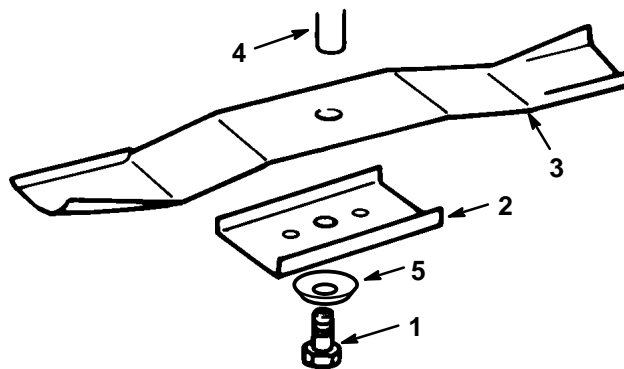

Figure 26
1. Install the blade, blade retainer, washer, and the blade bolt (Fig. 26).